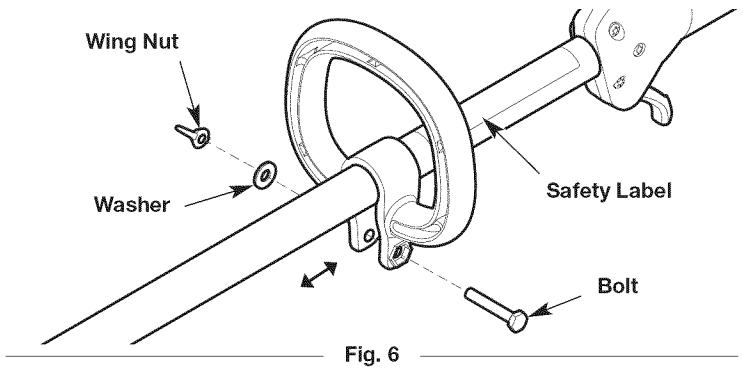

Fig. 6
2. Insert the bolt into the hex bolt hole and push it through (Fig. 6). Place the washer onto the bolt (Fig. 6). Screw the wing nut onto the bolt, but do not tighten the wing nut completely (Fig. 6).
3. Hold the unit in the operating position (Fig. 15) and move the handle to a comfortable location (Fig. 6). Make sure the handle is positioned beyond the end of the safety label (Fig. 6).
1. Loosen the wing nut (Fig. 6).
2. Hold the unit in the operating position (Fig. 15) and move the handle to a comfortable location (Fig. 6). Make sure the handle is positioned beyond the end of the safety label (Fig. 6).